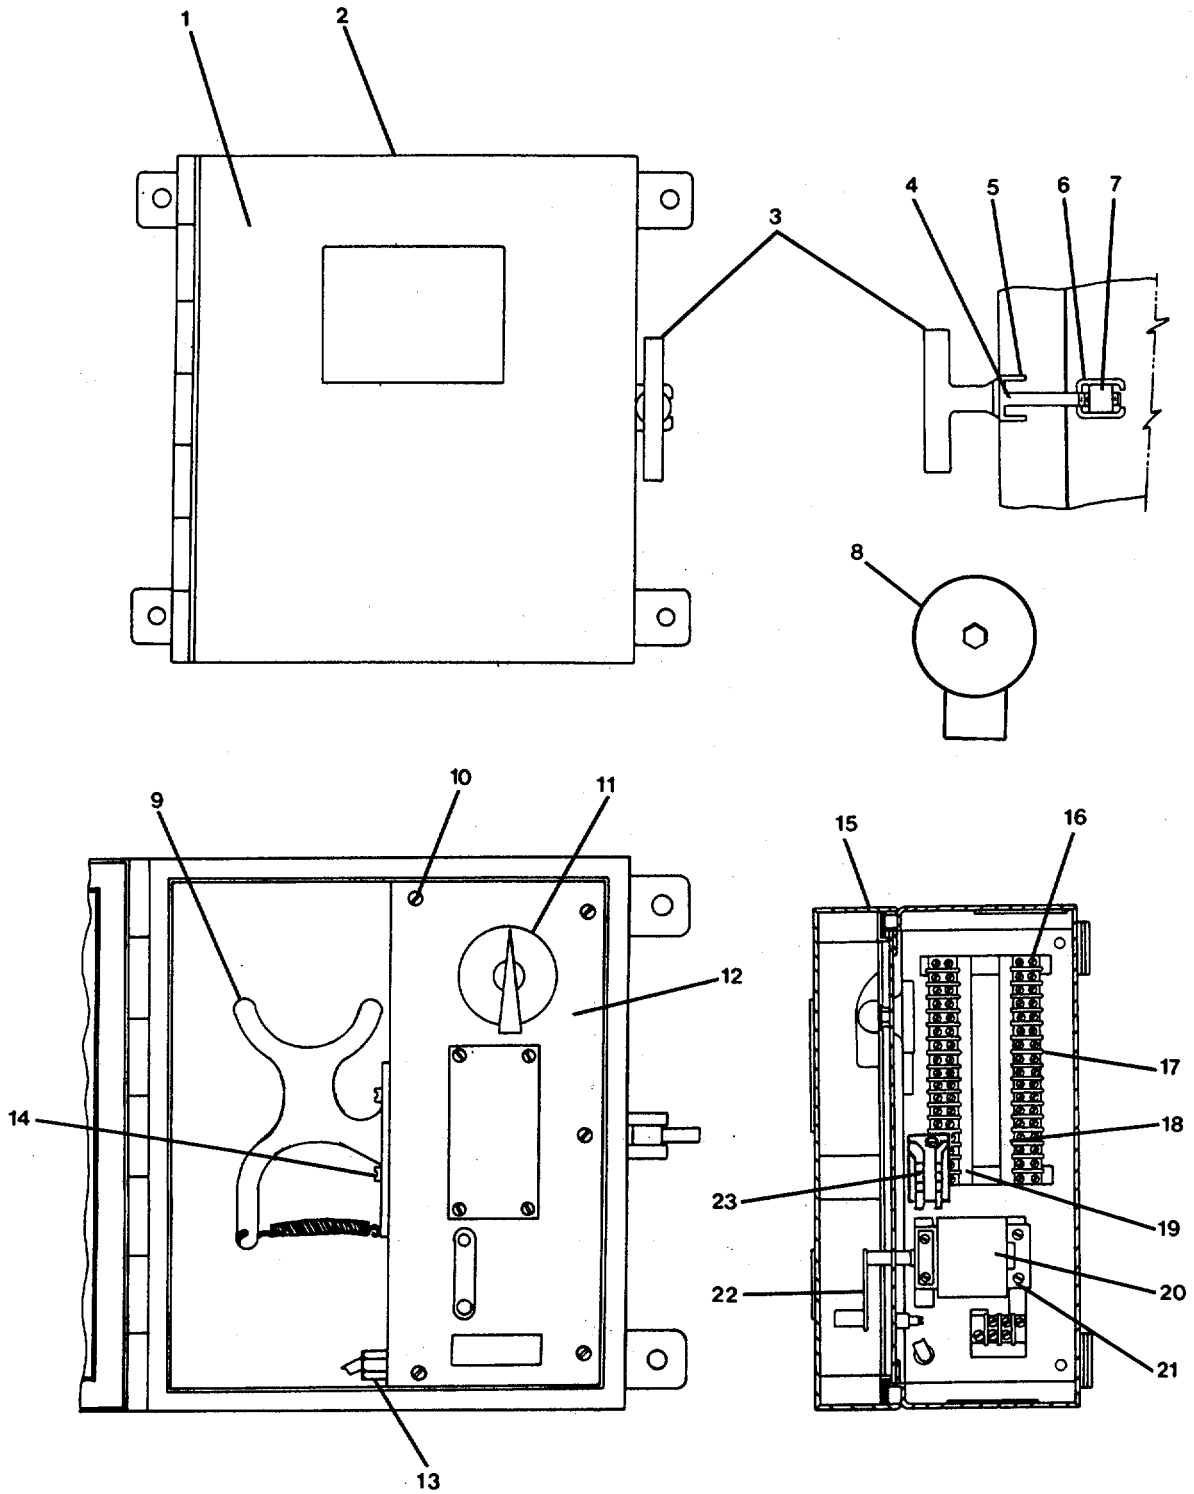

FIGURE 3-36. Sound Powered Telephone MWT-R-8.
- f. Install drive screw (16).
- g. Install electromagnetic relay (23).
- h. Install manual control handle (22) and hand ringing generator (12).
- i. Install self-locking screw (21).
- j. Install telephone selector switch (11). Remove tags and connect electrical leads.
- k. Install gasket (15). Close mounting plate (12) and install self-locking screw (10).
- l. Install pivot rod (7) and pivot rod retainer (6).
- m. Install t-handle (3), handle guide (5), and self-locking screw (4).
- n. Close cover (1) on handset box (2), and secure t-handle (3).
**3-39. Repair Sound Powered Telephone MWT-R-8. (Figure 3-36)**